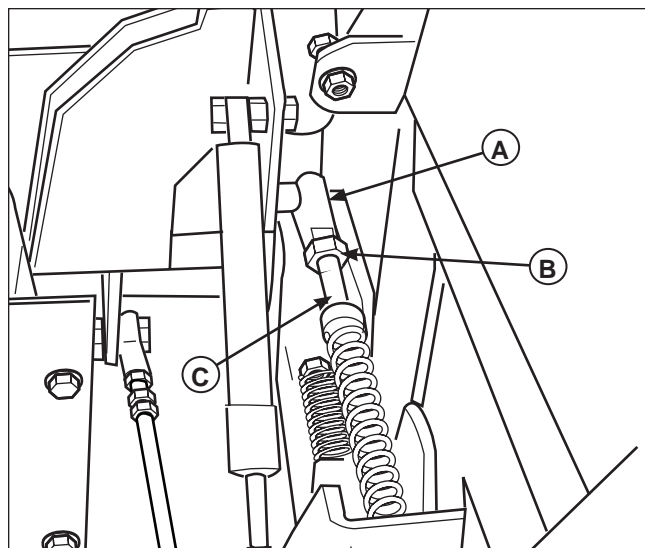

Figure 33. Neutral Return Adjustment
3. Move the ground speed control levers towards the neutral position. If the levers do not align with the notches in the neutral lock plate, it is necessary to adjust the neutral return rod (C, Figure 33).
1. Loosen the jam nut (B) locked against the ball joint (A).
2. Turn the neutral return rod (C) to adjust handle position (see Figure 33).